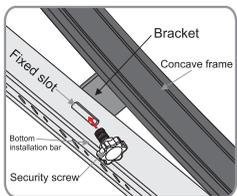

Figure 29
5. When the screen is installed on the installation bars, adjust the orientation of the screen to make sure the hole in the bracket is aimed at the fixed slot in the bottom installation bar. Fasten the security screw to the hole and fix the screen. (Figure 29 - 30)